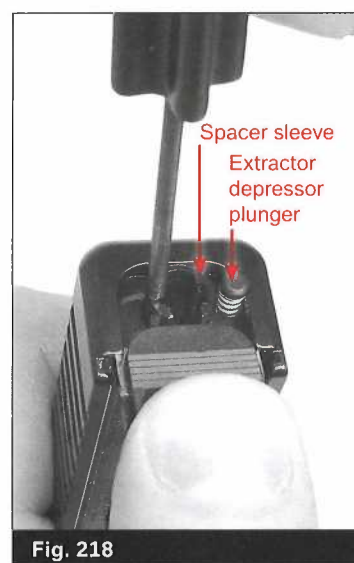

Fig. 218
- When replacing the slide cover plate, hold it partially in its place and press down on the spacer sleeve with a finger or pin punch. This will allow the cover plate to move inward. Then press down on the spring loaded bearing while continuing to press the cover plate inward. This will let the slide cover plate move all the way up and snap into position. (Fig. 218)